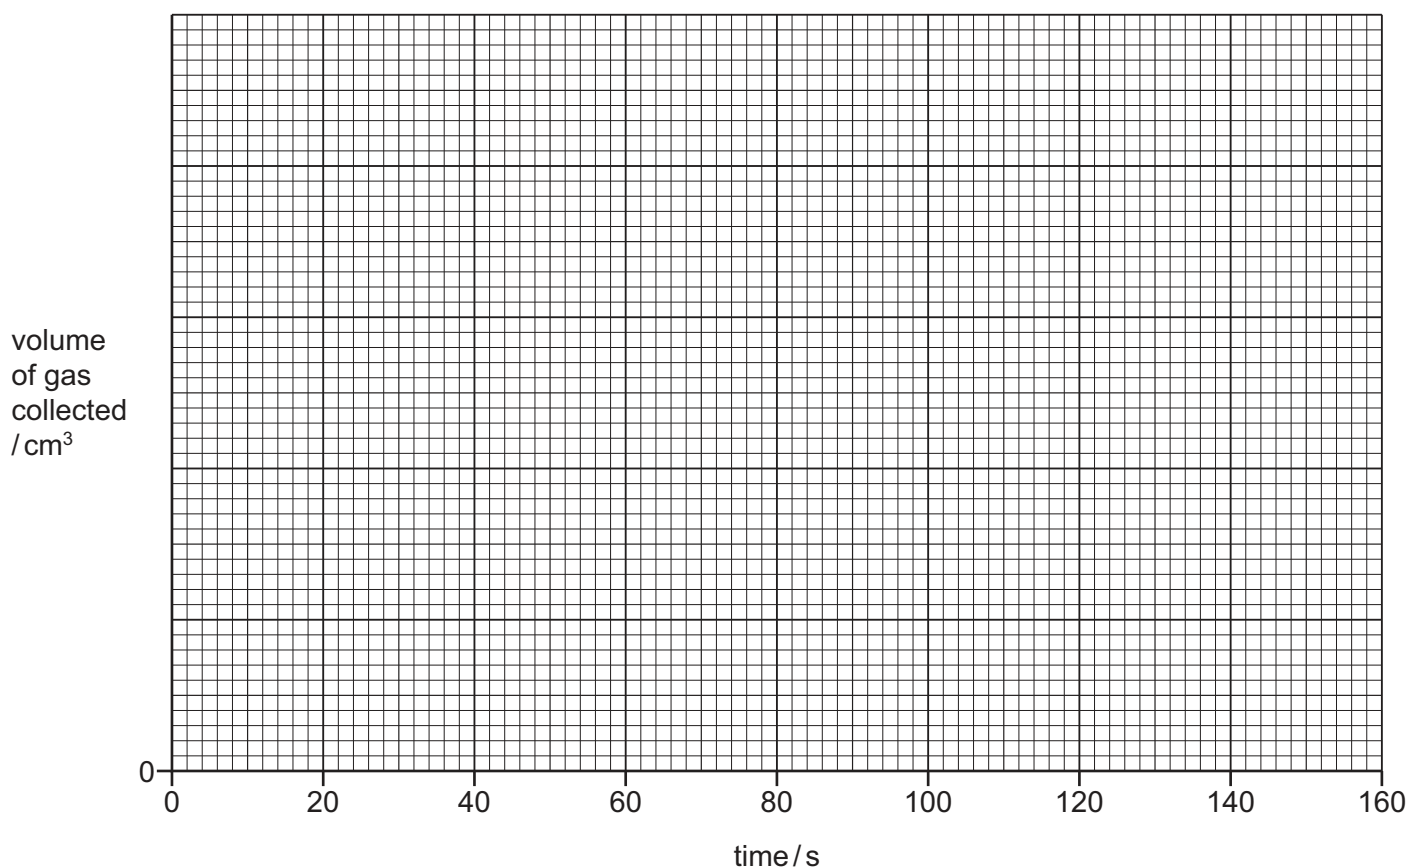

Fig. 1.2
- (b) Complete a suitable scale on the y-axis and plot your results for Experiments 1 and 2 on Fig. 1.2. Draw two lines of best fit. Both lines **must** start at (0,0). Label your lines.
- (c) Deduce the volume of gas collected between 50 seconds and 70 seconds in Experiment 1. Show clearly on Fig. 1.2 how you worked out your answer.
- (d) Use Fig. 1.2 to explain which experiment had the faster rate of reaction.
- (h) Sketch on Fig. 1.2 the graph you would expect when Experiment 2 is repeated using ethanoic acid with a higher concentration.